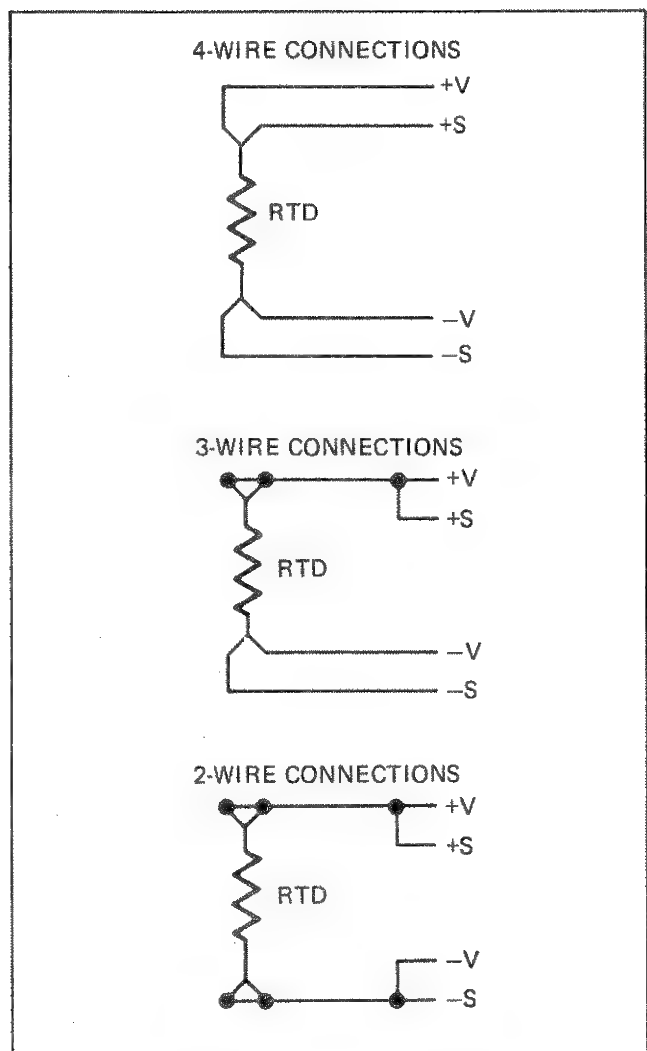

Figure 2-2. RTD Connections
3. Route the selected RTD lines through the Input Module's rear access port, and connect them to the input terminals; depending on the type of RTD, connections may involve 2, 3, or 4 wires. Refer to Figure 2-2 as a reference when connecting RTD lines to the Input Module (TBI). Lines of the same color usually go to the same polarity connections (+V and +S, or -V and -S). Refer to instructions included with the RTD for specific connection directions.
When 2- or 3-wire RTDs are used, there is some error created due to the RTD excitation current in the Sense (S) wire leads. To minimize this error. The user should (when possible) use the 4-wire RTD connection as show in Figure 2-2.